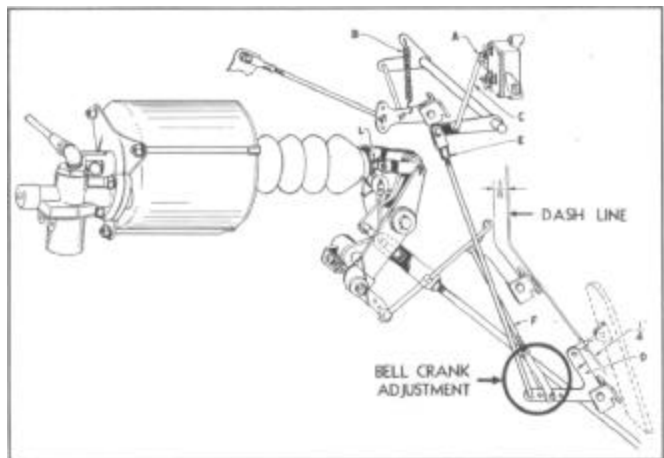

Figure 2
A field correction to take care of this condition on cars in service can easily be applied by adding an extra 10-24 nut which is run up to the end of the thread at the end of the valve rod as shown at "L" in Figure 2. To install this nut it is necessary to remove the trunnion from the rear end of this valve rod, turn the present nut up to the end of the thread, add the extra nut and replace the trunnion.
In order for the automatic clutch to work properly when disengaging takes place, it is necessary that all automatic clutch control and throttle linkages work freely and without binding. The accelerator switch arm (A) (Figure 2) must rest securely against its stop on side of switch by the action of the throttle return spring (B) acting through the accelerator switch operating rod (C). Set accelerator pedal bell crank arm (D) to stop within 1/4" of toe board by adjusting the throttle rod clevis (E). Threaded sleeve rod bell crank operating rod (F) must be in third hole from end in lower arm of bell crank (D). Adjust rod (F) to give 3/8" clearance at dash, as shown, with motor idling and vacuum clutch.